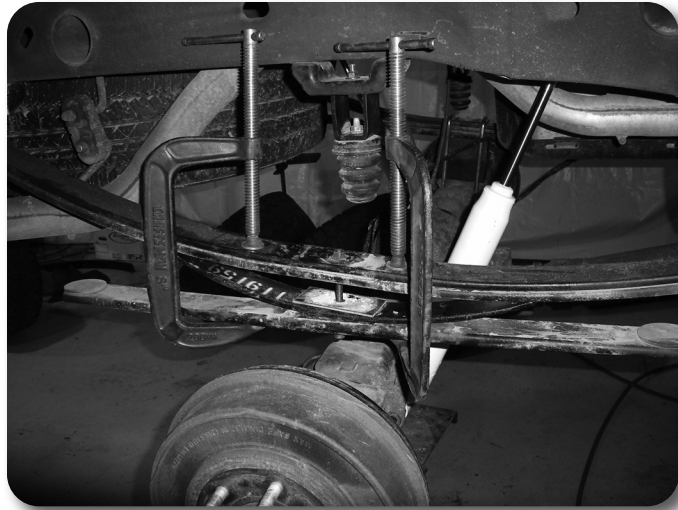

Figure 3
12. Place the C-clamps back on the leaf pack on each side of the center pin **Figure 3**. Slowly pull the leaf pack together with C-clamps, make sure the leaves stay in line and the center pin is square. When the pack is completely together, torque the center pin to 30 ft-lbs. Remove the C-clamps.